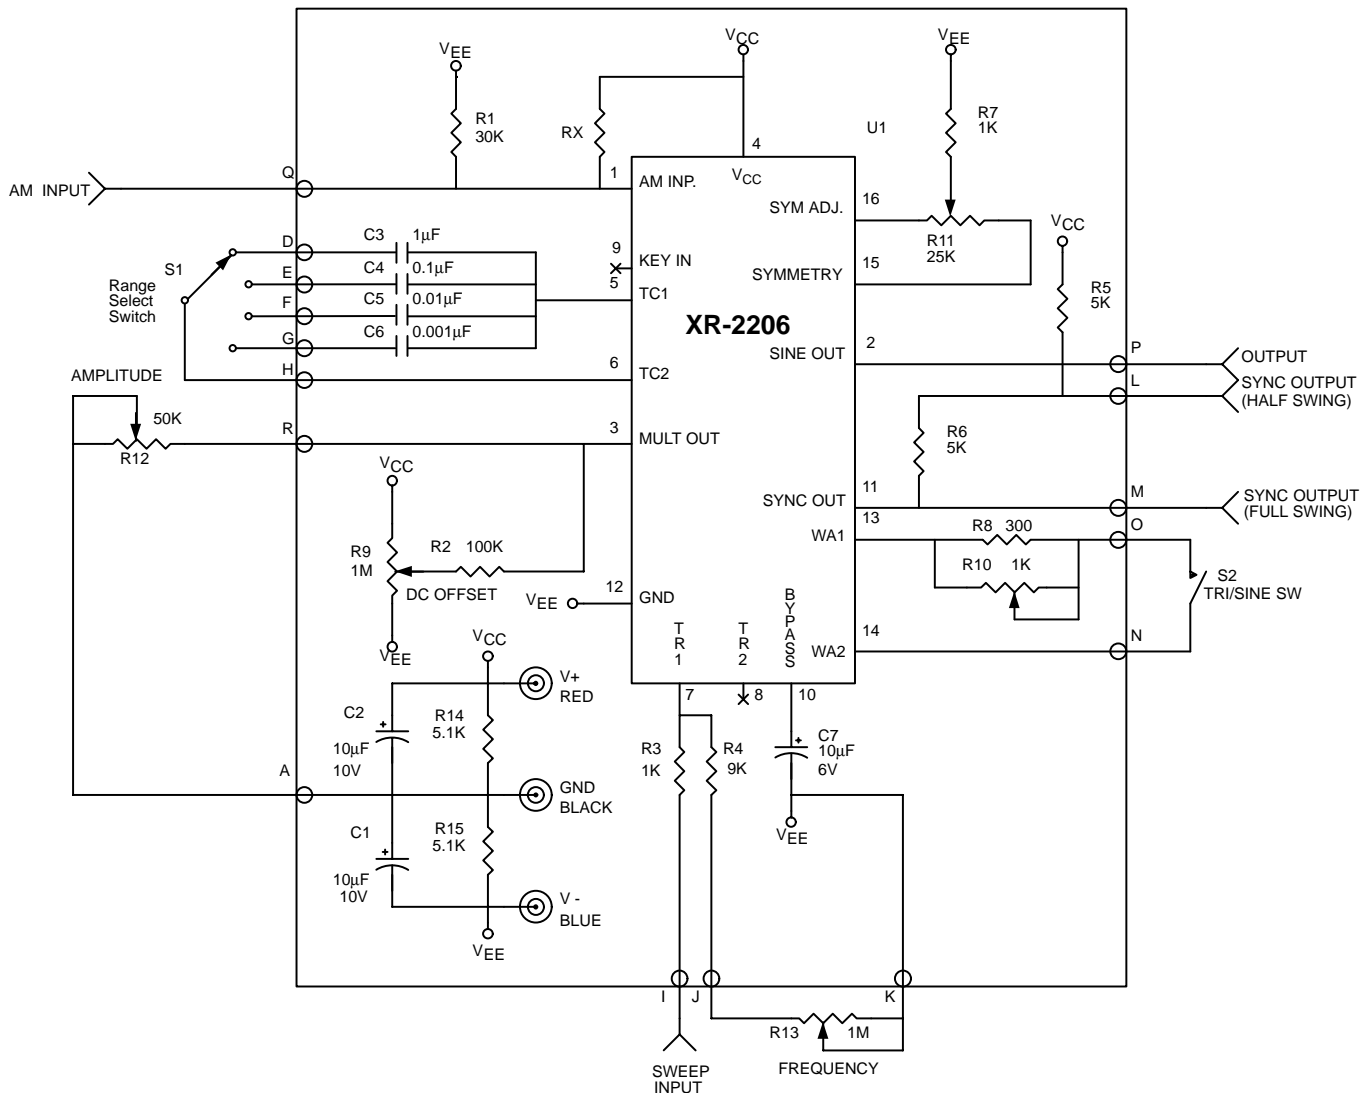

Figure 1. Circuit Connection Diagram for Function Generator
The basic circuit configuration and the external components necessary for the high-quality function generator system is shown in *Figure 1*. The circuit shown is designed to operate with either a 12V single power supply, or with 16V split supplies. For most applications, split-supply operation is preferred since it results in an output dc level which is nearly at ground potential.
The circuit configuration of *Figure 1* provides three basic waveforms: sine, triangle and square wave. There are four overlapping frequency ranges which give an overall frequency range of 1Hz to 100KHz. In each range, the frequency may be varied over a 100:1 tuning range.
However, they represent the typical performance characteristics measured by EXAR's application engineers during the laboratory evaluation of the function generator system shown in *Figure 1*. The typical performance specifications listed below apply only when all of the recommended assembly instructions and adjustment procedures are followed:
- (b) **Frequency Setting:** At any range setting, frequency can be varied over a 100:1 tuning range with a potentiometer (see R13 of *Figure 1*.)
The above expression is accurate to within 15% at any range setting. The timing resistor R is the series combination of resistors R4 and R13 of *Figure 1*. The timing capacitor C is any one of the capacitors C3 through C6, shown in the figure.
- (d) **Sine and Triangle Output:** The sine and triangle output amplitudes are variable from 0V to 6Vpp. The amplitude is set by an external potentiometer, R12 of *Figure 1*. At any given amplitude setting, the triangle output amplitude is approximately twice as high as the sinewave output. The internal impedance of the output is 600Ω.
(f) **Sync Output:** The sync output provides a 50% duty cycle pulse output with either full swing or upper half swing of the supply voltage depending on the choice of sync output terminals on the printed circuit board (see Figure 1.)
Frequency can be modulated or swept by applying an external control voltage to sweep terminal (Terminal I of *Figure 1*.) When not used, this terminal should be left open circuited. The open circuit voltage at this terminal is approximately 3V above the negative supply voltage and its impedance is approximately 1000Ω.
(h) **Amplitude Modulation:** The output amplitude varies linearly with modulation voltage applied to AM input (terminal Q of *Figure 1*.) The output amplitude reaches its minimum as the AM control voltage approaches the half of the total power supply voltage. The phase of the output signal reverses as the amplitude goes through its minimum value. The total dynamic range is approximately 55dB, with AM control voltage range of 4V referenced to the half of the total supply voltage. When not used, AM terminal should be left open-circuited.
The following is a list of external circuit components necessary to provide the circuit interconnections shown in *Figure 1*.
The following additional items are recommended to convert the circuit of *Figure 1* to a complete laboratory instrument: